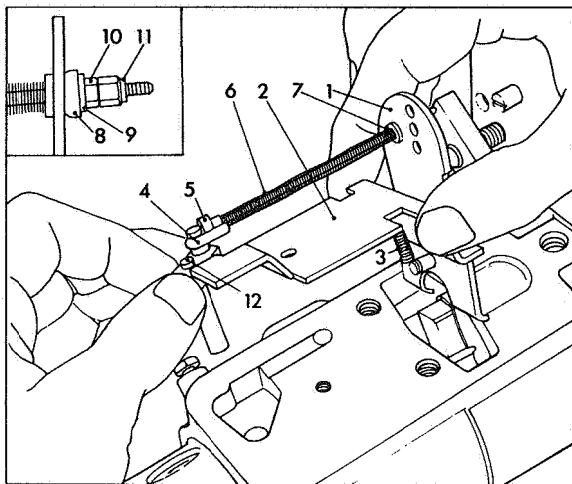

Fig 61 Assembling governor linkage
Assemble governor arm (1) Fig 61 to control bracket (2) and fit governor arm spring (3). Assemble spring linkage components onto the linkage hook (4) in the following order:— Spring retainer (5) large end first, long linkage spring (6) and linkage spring washer (7). Pass the linkage hook through the correct hole in the governor arm and continue assembling linkage pivot ball (8), pivot ball washer (9), linkage nut (10) and locking nut (11). Assemble metering valve (12) to the hook linkage as shown.